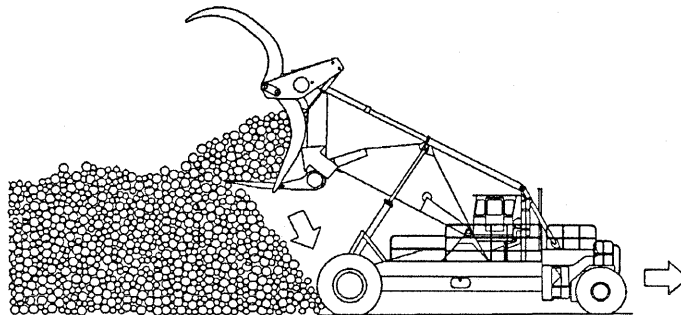

Fig 4-12
2. Move up to the deck with the load lifted to the necessary height. Place the drive wheel tires tight against the bottom logs, as this firms up the deck and helps prevent logs from shifting when you place the new load on top. See Fig. 4-12.